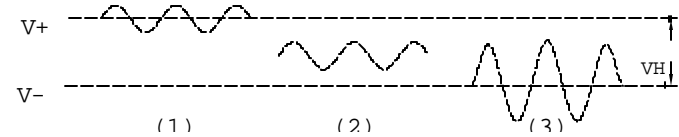

Fig. 3 States under which the schmitt circuit doesn't work
But if both V^+ and V^- don't react each other, no output will be obtained and the Schmitt circuit will not work out with the states of (1), (2) and (3) of Fig. 3 shown as below.